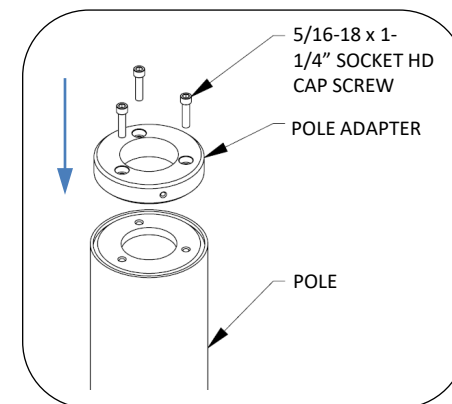

Fig. 1 – Install pole top adapter
1. Attach adapter plate to top of pole using (3) 5/16-18 X 1-1/4" hex socket head cap screws, see Fig. 1.